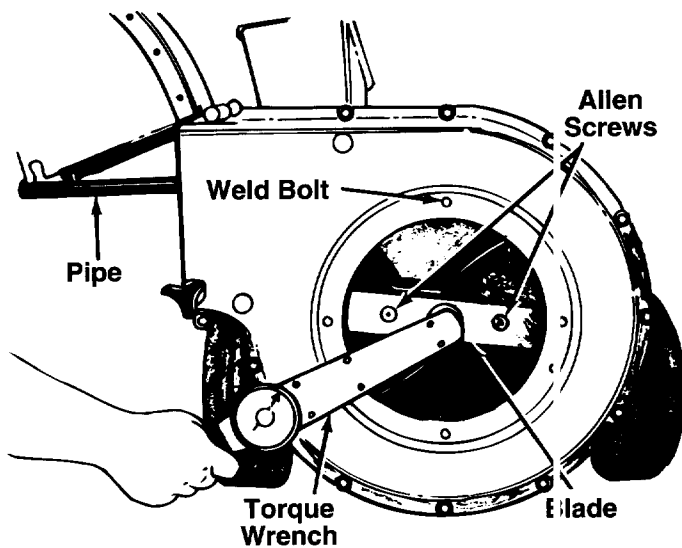

FIGURE 12.
2. Lower the hopper assembly. Block up the hopper. See figure 12.